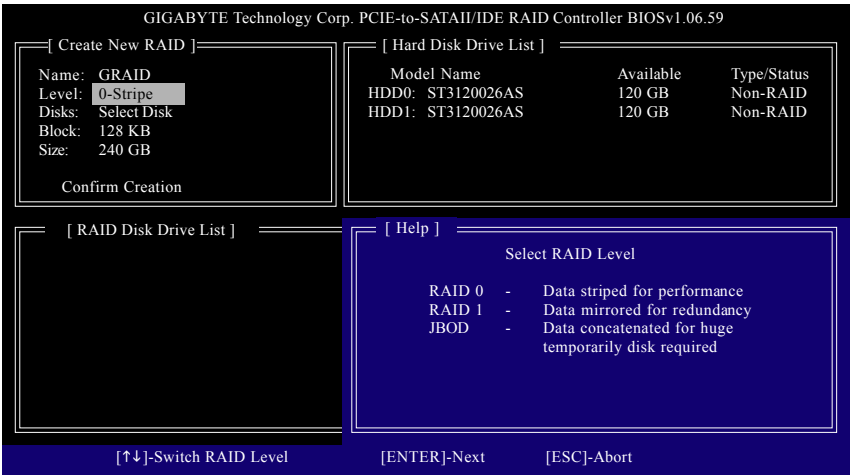

Figure 6
The **Create New RAID** block displays all the items that need to be set for creating an array (Figure 6).
- 2. Select RAID Mode:** Under the **Level** item, use up or down arrow key to select RAID 0 (Stripe), RAID 1 (Mirror), or JBOD (Figure 6). Then press <Enter> to move onto the next step.